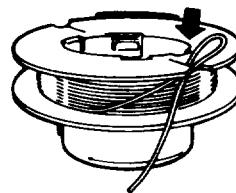

Figure 16
- C. Keep line tight on spool by making a hook in the line and secure in groove (Fig. 16).